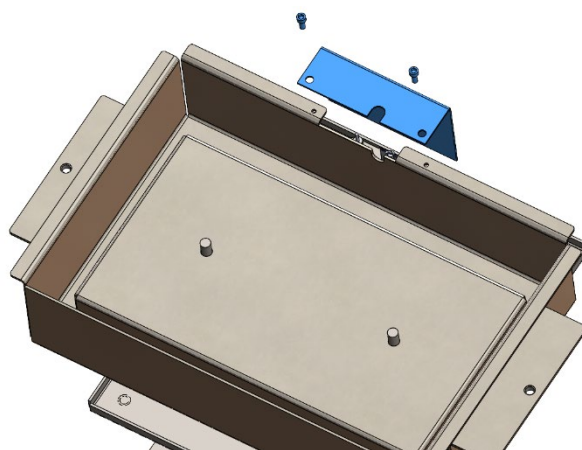

Fig.30 Pilot mesh guard
- Inspect pilot assembly, check function and ensure it is free from debris. Clean the thermocouple tip and check there is approximately 4mm gap from the electrode to the pilot burner port. To access the pilot assembly, first remove the pilot mesh guard (Fig.30) then unscrew the pilot assembly underneath and lift the pilot assembly to access (Fig.31).